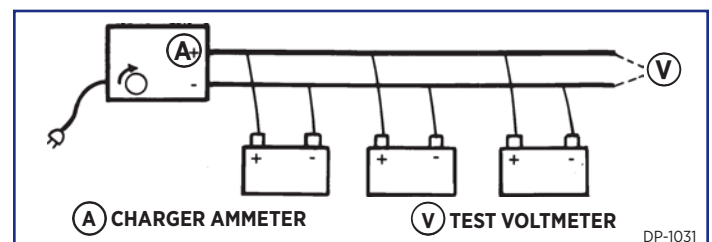

FIGURE 2.
With voltage-limiting, the batteries are connected so that the charging current is divided and each battery receives only the charging current it can accept at the charger’s voltage. (See Fig. 2 for typical hook-up.) Because of these differences, the charging procedures also differ.
2. Connect batteries and test voltmeter to charger as shown in Figure 2. Make sure that all connections are clean and tight. Set charging voltage setting to a setting that does not exceed 16.0 volts. The charger may not be able to reach this voltage initially, but as batteries become charged and accept less current, the voltage will rise. The ammeter of the charger is indicating the total current flow to the connected batteries. This current divides into the various batteries. It is not a measure of each battery's current acceptance. Do not exceed the charger's capabilities by connecting too many batteries. Follow the charger manufacturer's directions.